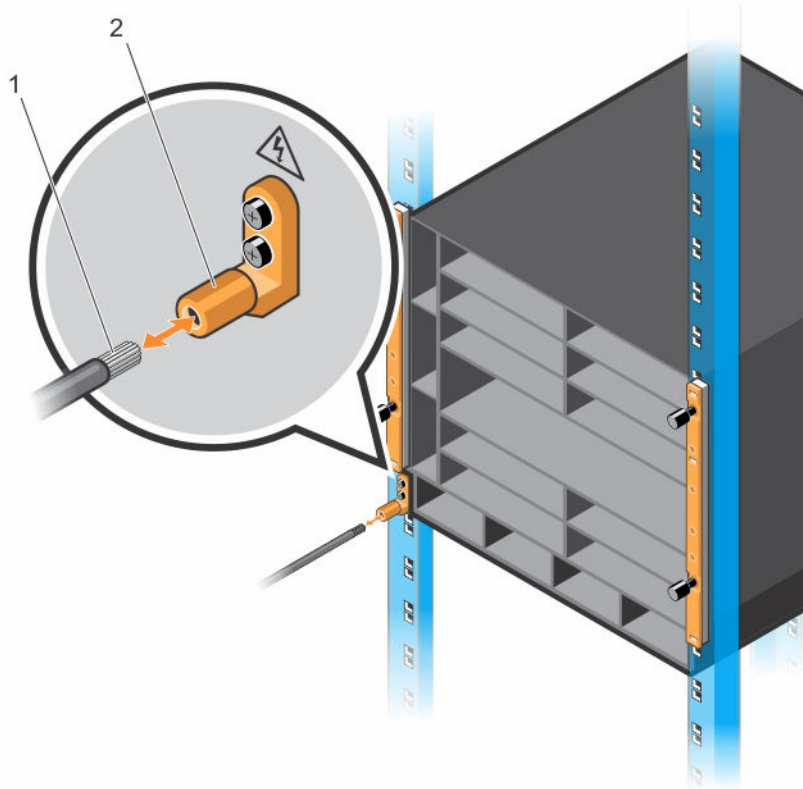

Figure 18. Grounding the Chassis
2. Attach a grounding cable to the chassis lug by inserting a 6-gauge cable (item 1 in Figure 18). Using a hand-crimping tool (Tyco Electronics 58433-3 or equivalent), crimp the lug (item 2 in Figure 18) so that the cable is held securely.